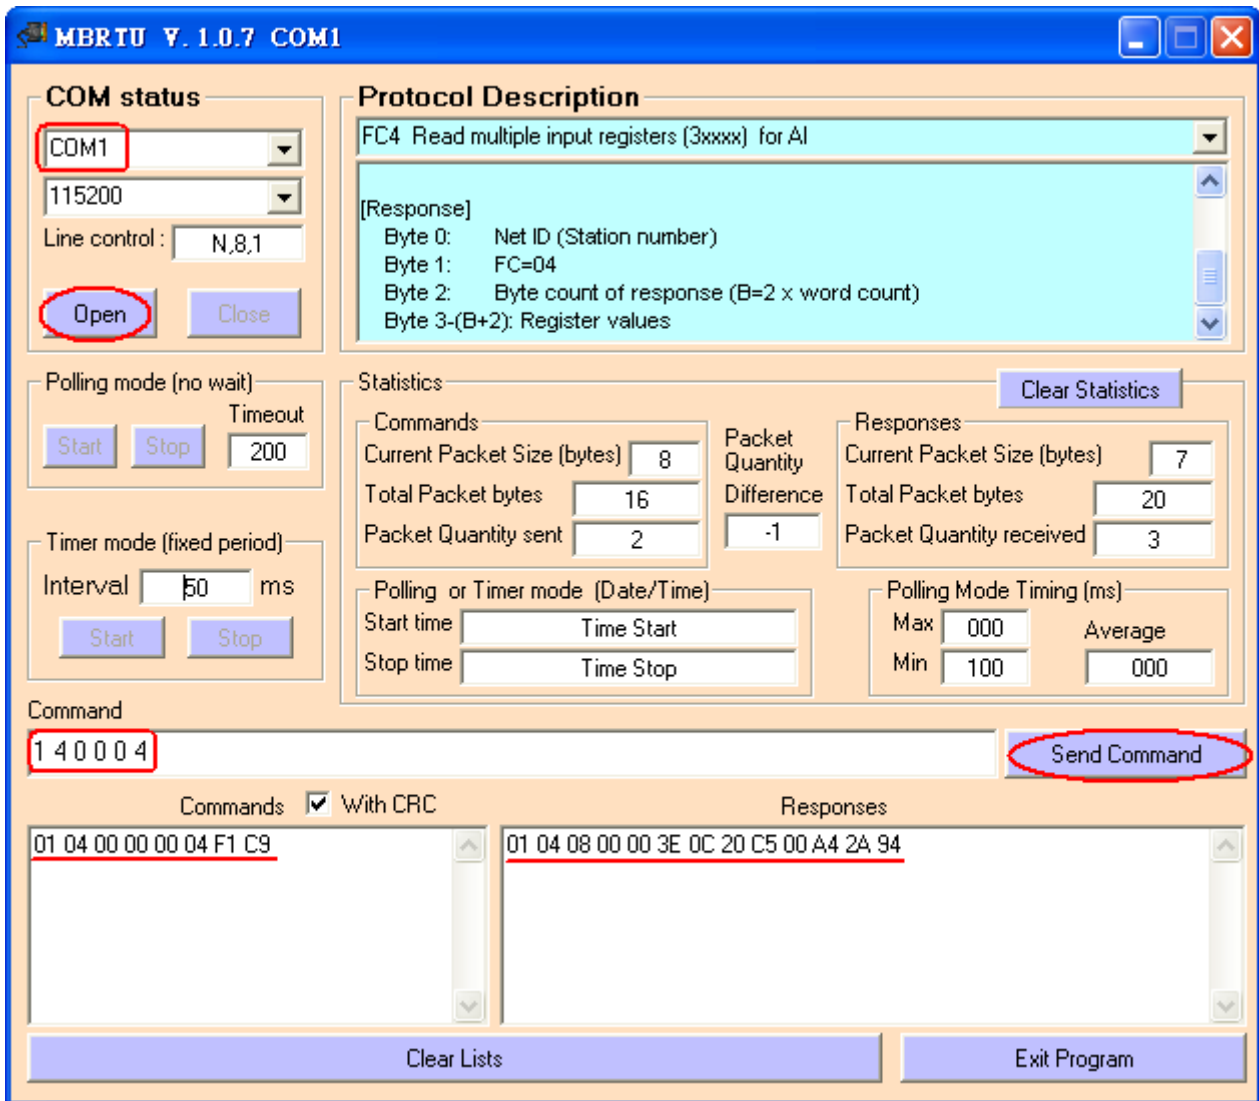

Figure 5-2 Receive HART Command 1 data
(2) The below demo will use the free **MB/RTU tool** provided by ICP DAS to show HART command 1 data. (Download from [http://ftp.icpdas.com.tw/pub/cd/8000cd/napdos/modbus/modbus\\_utility/](http://ftp.icpdas.com.tw/pub/cd/8000cd/napdos/modbus/modbus_utility/))
(3) Run “MB/RTU” tool. Set the com port settings the same with HART-710 (Baud Rate / Data Bits / Stop Bits / Parity) and then click “Open” button to connect to HRT-710 like Figure 5-2.
(4) Input “1 4 0 0 4” in “Command” field and click ”Send Command” button to send the modbus command. The HART command 1 data will be received in “Responses” field => “01 04 08 00 00 3E 0C 20 C5 00 A4 2A 94” like Figure 5-2.